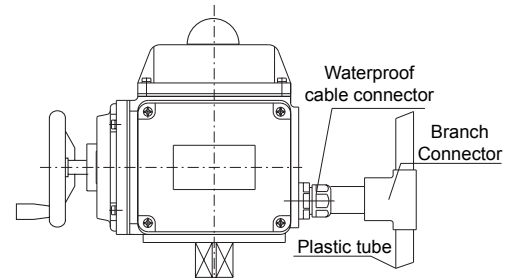

Figure 1
- Refer to figure 1 when for installation of conduit